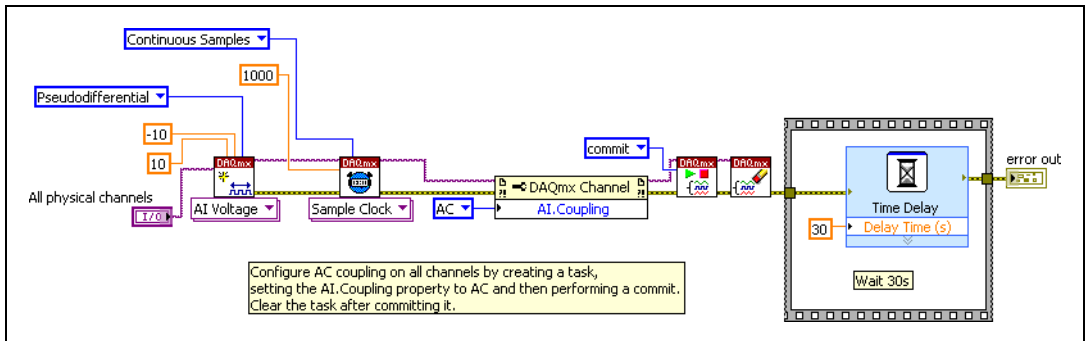

Figure 3. VI Showing How to Prepare a NI USB-443x for Analog Input Adjustment
4. Using Figure 3 as a guide, commit an AI voltage task on the NI USB-443x with the settings shown in Table 16. After the task is committed, clear the task and wait for 30 seconds.